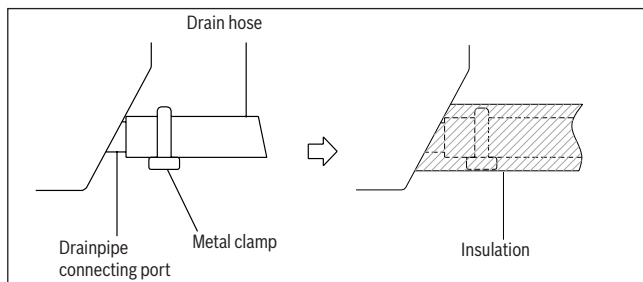

Fig. 19.
2. Attach the mouth of the drain hose to the unit's outlet pipe. Sheath the mouth of the hose and clip it firmly with a pipe clasp. (Fig. 19)